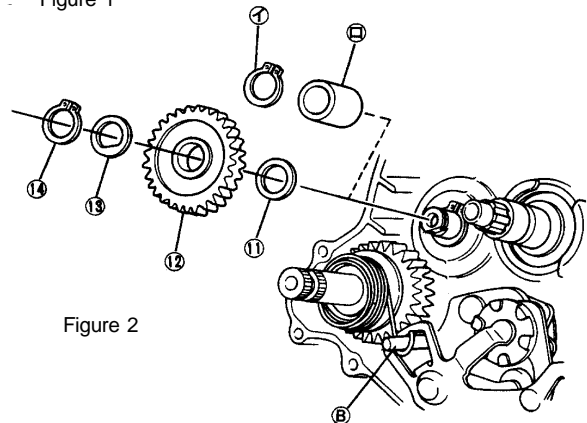
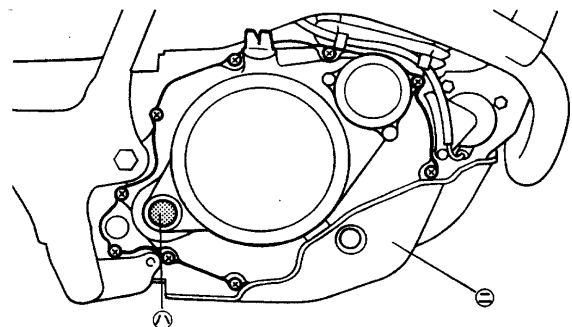

Figure 2
Figure 4
8. Refer to figure 2. Remove the circlip and spacer (the ones referenced by the dashed lines and Japanese characters) from the idle shaft. These two parts can be set aside, for they are not required for the kickstarter. Place washer (11), kick idle gear (12), flat sided washer (13), and new circlip (14) onto the idle shaft.
10. Refer to figure 2. Place the sub assembly from step 9 into the crankcase. Squirt some engine oil into the hole where kick axle seats. Align the extension of the horseshoe clip (2) with the indent in the crank case (directly at the bottom). Wind the torsion spring half a turn and hook on to projection B.
12. Install the clutch. See pgs 4-71 to 4-73 in the service manual. Use the new lock washer (17) when installing the clutch boss bolt. If you have an O-ring on your clutch push-rod shaft, use the new one (18) supplied with the kit.
13. Refer to figure 4. Remove the crank case cover (Λ) plug and replace it with the included oil seal (10). Apply some grease to the inner part of oil seal to help it slide over the kick axle.
14. Install the crank case cover. See pg 4-74 in the service manual. Be careful not to damage the oil seal. Use the new gasket (19) included in kit. The grey cross hatch side of the gasket (19) goes up against the crank case cover.
17. Attach the kick lever (15) and tighten the bolt to 12-16 ft-lbs. Ensure the kick lever (15) does not hit the frame or crank case cover throughout its full range of motion or while stowed.